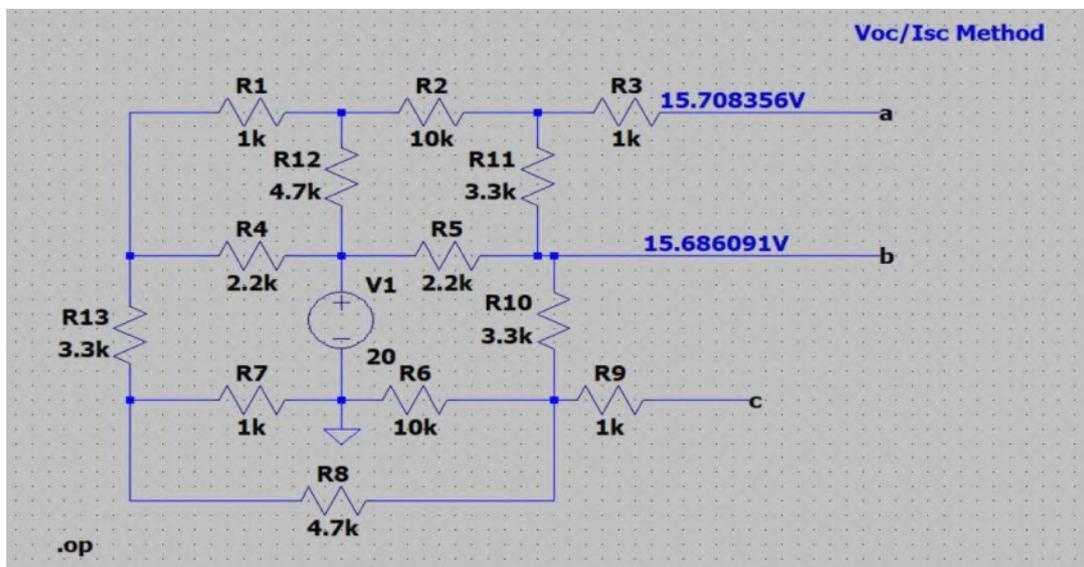

Figure: 10
- 2) Label the nodes across which the equivalent resistance is to be found as **a** and **b** using label net and perform DC operating point analysis .op to find the voltages of node a and b as shown in figure 10. The voltage difference between node a and b is the open circuit voltage.